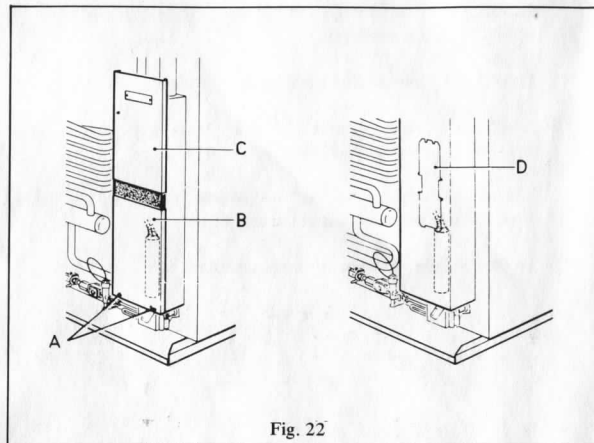

Fig. 22
1. To replace the heater, first check that the wall plug is disconnected, then remove lock screws A (Fig. 22) on the lower lid B and upper lid C. Push the lid B downwards and the upper lid C upwards (on RM100 remove the plate D (Fig. 22)).